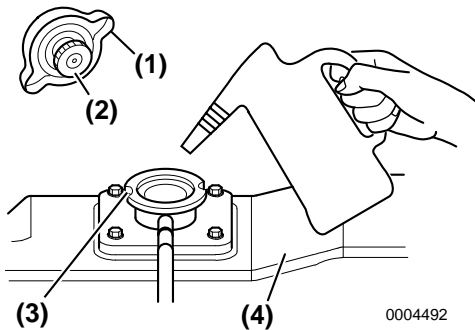

Figure 11
Pour coolant slowly into the coolant tank / heat exchanger (Figure 11, (4)) to avoid air bubbles. Fill until coolant overflows from the filler port.
5. Align the filler cap tabs (Figure 11, (1)) with filler port notches (Figure 11, (3)) and tighten the filler cap (Figure 11, (2)).